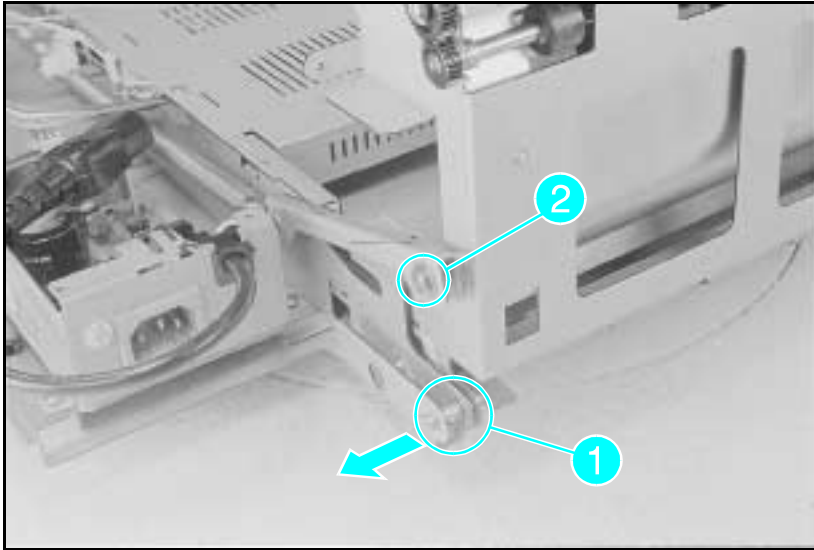

Figure A-23 Switchback Assembly Hinge Pins
- 1** Pull out the pin located on the Power PCA side (see Figure A-23, callout 1).
- 2** Release the (1) E-clip on the upper pin near the retaining arm (see Figure A-23, callout 2).